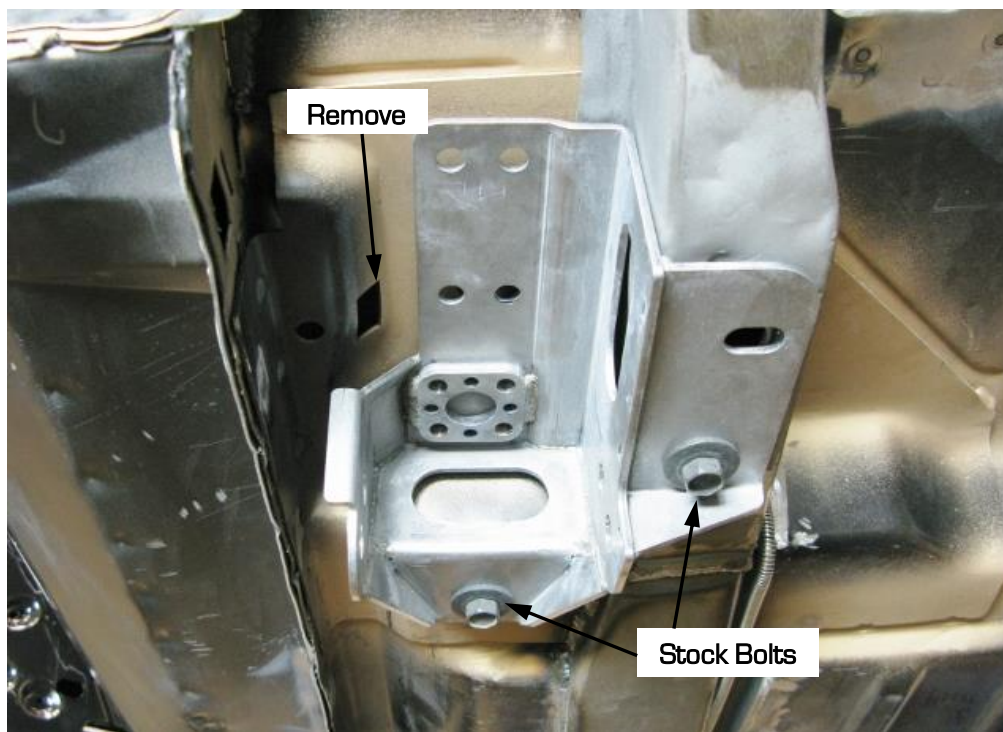

Figure 4 – Position Leaf Spring Pocket Assembly
10. Install the DSE pocket assemblies with your leaf springs in place of the factory leaf spring pockets using 2 of the 3 factory bolts (Figure 4). The U-clip for the 3rd factory bolt that is not used can be removed.